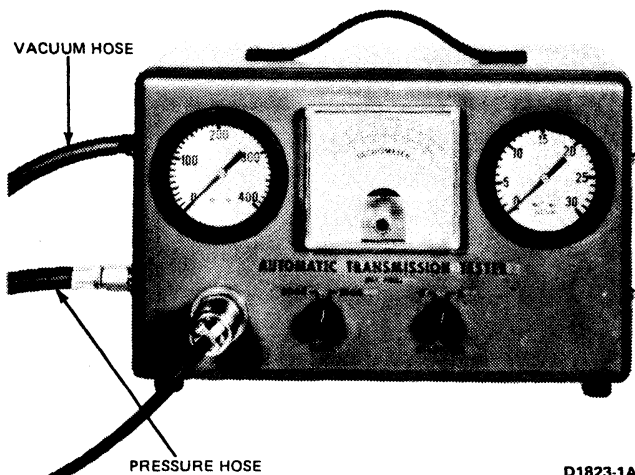
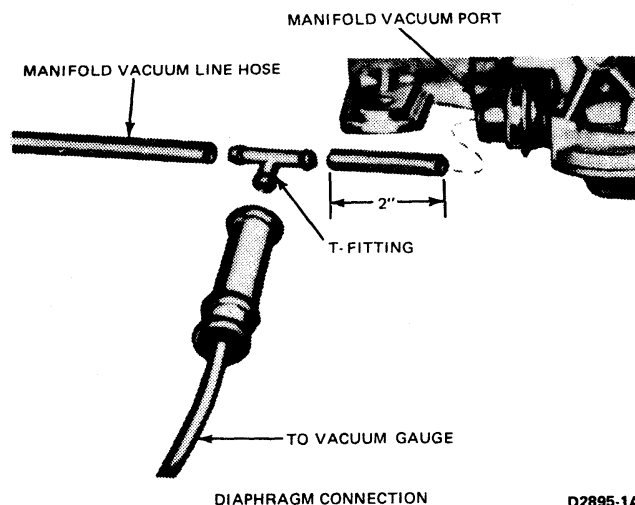

FIG. 5 ARE-29-05 Automatic Transmission Tester
FIG. 6 Typical Vacuum Test Line Connections
1. Using the automatic transmission tester (Fig. 5), attach the tachometer to the engine and the vacuum gauge to the transmission vacuum line at the manifold vacuum port (Fig. 6).